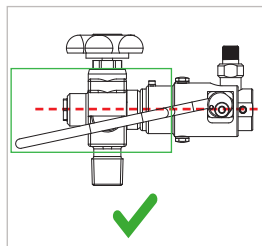
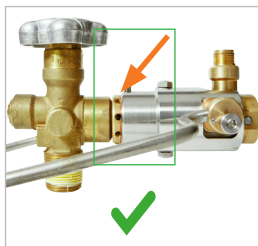
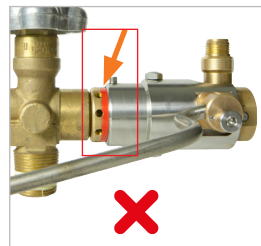

Figure 4
Figure 5
Figure 6
- ▶ Fold the actuation unit (pos. 1) downwards. It must be possible to lower the bail/lever easily and without any force. In its end position, the actuation unit must be below the horizontal of the connector (Figure 4). The red marking on the front part (pos. 3) must disappear under the housing and must no longer be visible (Figure 5 and Figure 6).